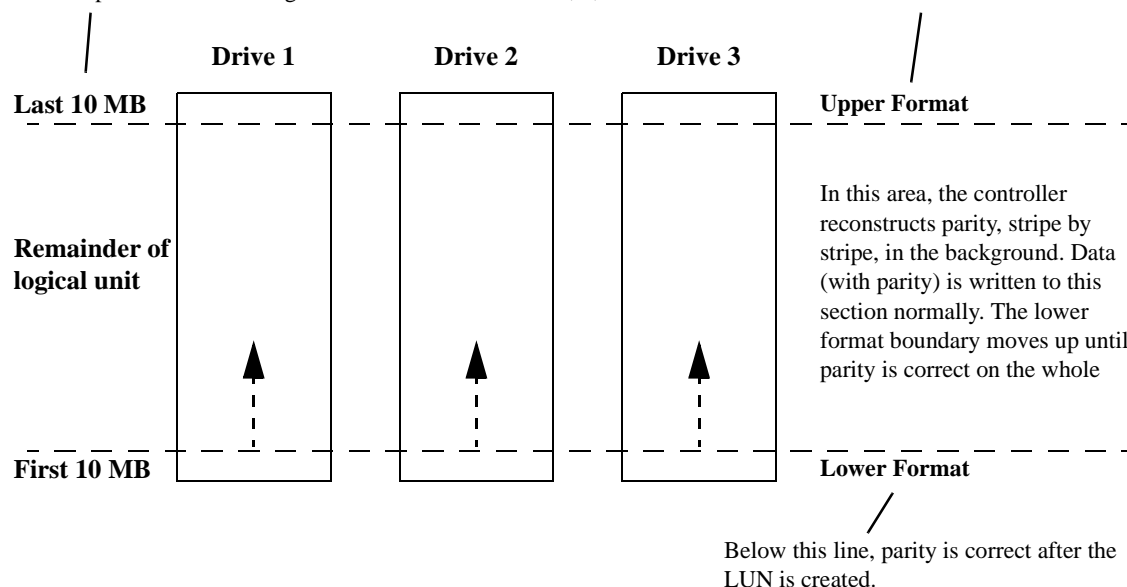

Figure 19. RAID 5 LUN Creation Example
- RAID 3 or 5 logical unit: The RAID controller will format the remaining portion of the logical unit in the background. One at a time, the controller will rewrite the contents of each stripe so that the parity is correct in each stripe (see Figure 19, "RAID 5 LUN Creation Example"). If the controller needs to write user data in the unformatted portion of the LUN, it will write the data normally, so that the contents of each stripe is correct.